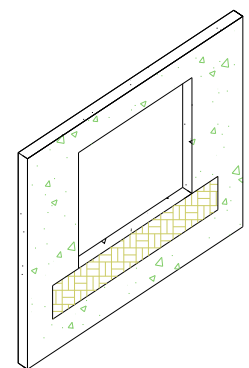

Figure 1
2. Apply the first strip of flashing paper horizontally immediately below the sill, cut sufficiently long enough to extend past each side of the window, so that it projects at least 3 inches past the vertical flashing to be applied later (Figure 1).